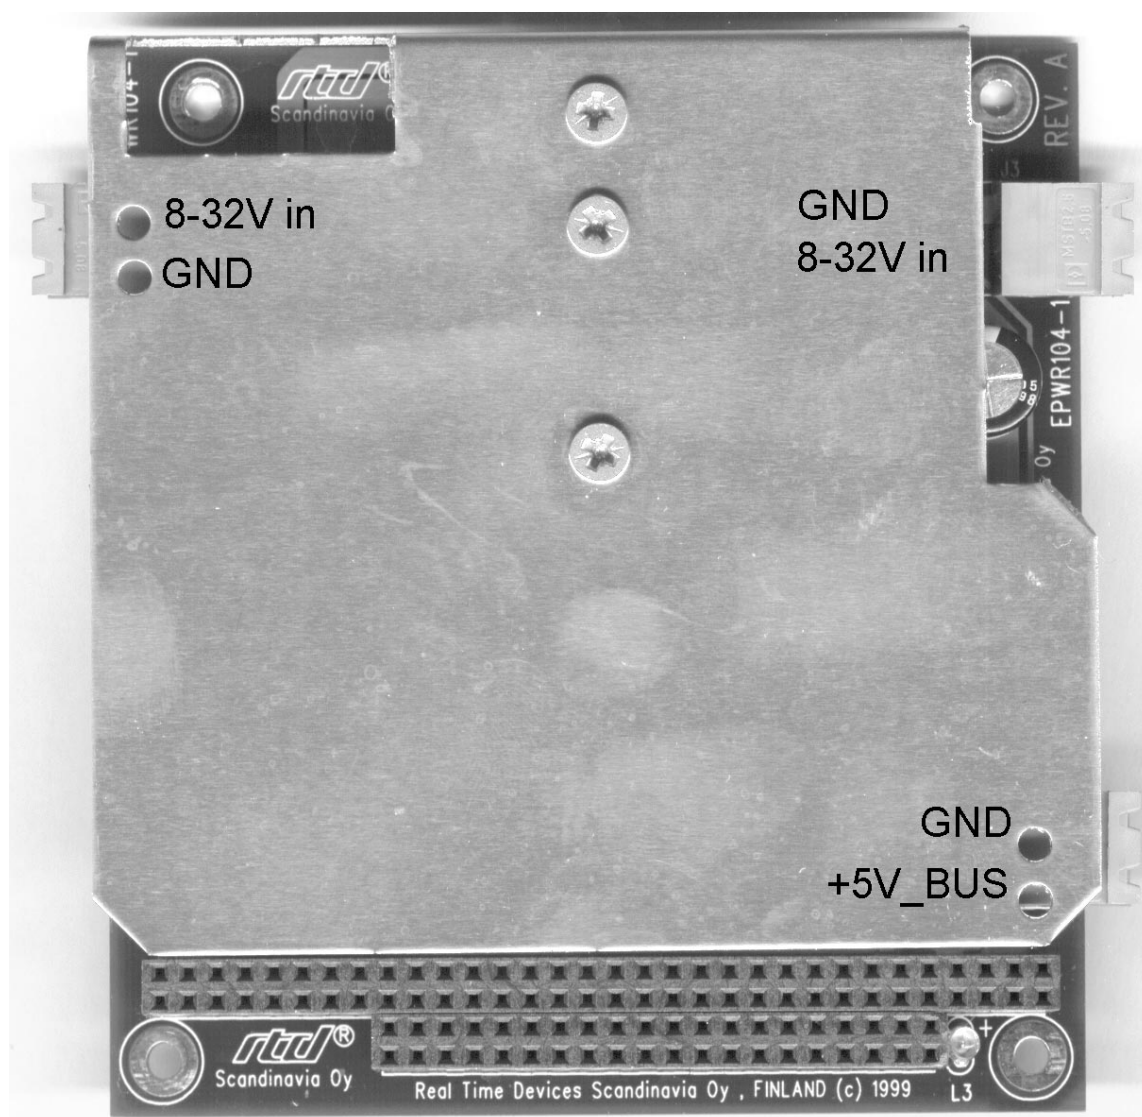

Fig. 1-3c EPWR104HR-1 power supply power connections
- Fig. 1-3c:** EPWR104HR-1 (IDAN-EPWR104HR-1) Power connections